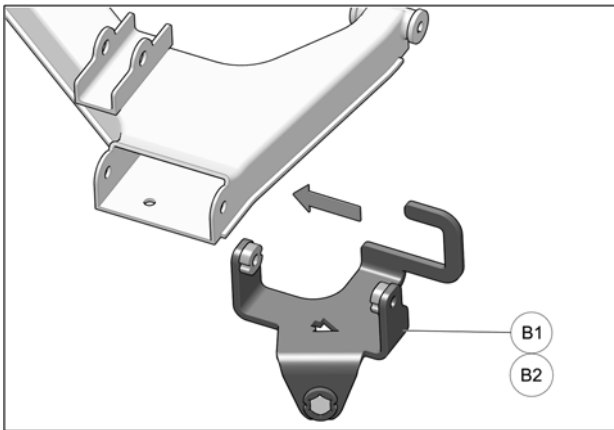

Fig. 6
6. Slide C-shaped back end of anchor bracket (B1-B2) on lower suspension arm. See Fig. 6